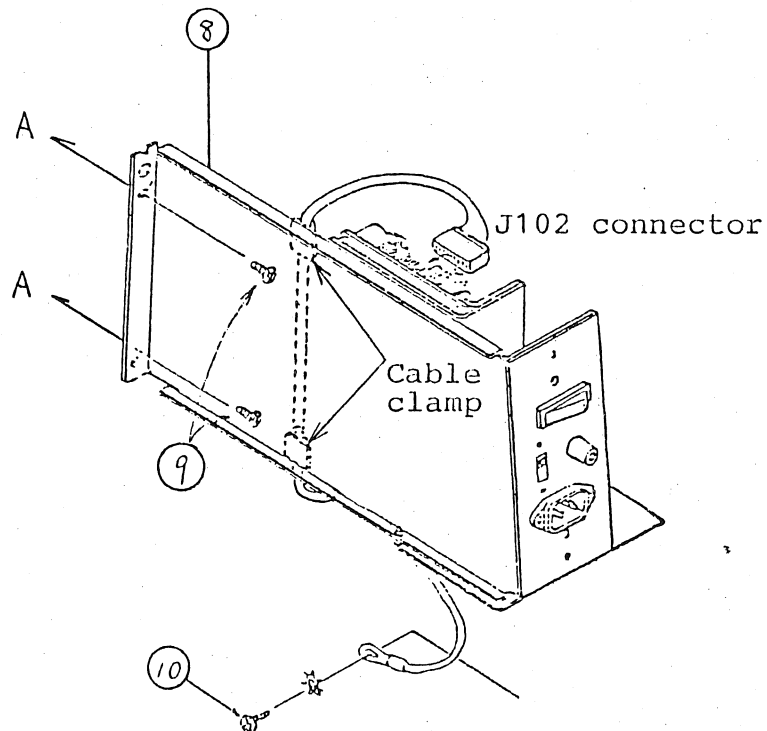

Fig. 6-1-3 Removal of Power Bracket
- (1) Remove the logic PWB and the rear cabinet according to the procedures described in 1) and 2).
- (2) Remove the J102 connector (10 P) of the switching power supply. (See Fig. 6-1-3.)
- (3) Remove the cable from the two cable clamps on the power bracket. (See Fig. 6-1-3.)